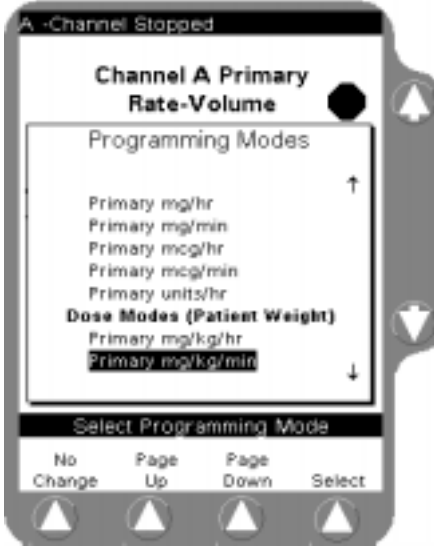

Figure 5-18 Programming Modes
2. Press the **Change Mode** soft key. The Programming Modes screen is displayed (Figure 5-18).